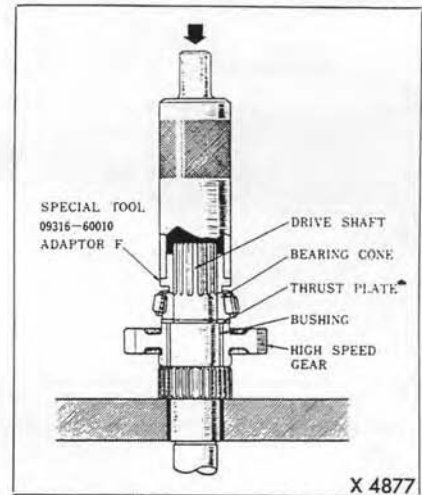

Fig. 3-52. Installing the cone of front tapered roller bearing on the transfer drive shaft with special tool.
Use a special tool, bearing replacer (09316-60010) with adapter F, and press the cone of the front tapered roller bearing and the thrust plate on the drive shaft. (Fig. 3-52) Place the high & low clutch hub, the
12. Use a special tool, bearing replacer (09316-60010) with adapter E, and install the cup of the rear tapered roller bearing in the case. (Fig. 3-52)